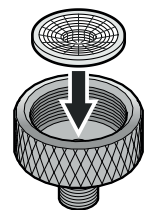

Figure 13
- Insert the water strainer supplied into the valve connector (**Figure 13**).